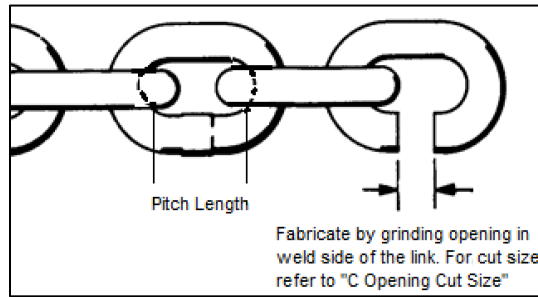

Figure 7.3.1
6. Use open “C” links for attaching the new chain to the old chain (see Figure 7.3.1). Links must be identical in size to hoist chain. Refer to Table 7.3.1 for “C Opening Cut Size”. The new chain is then run into the hoist as the old chain is run out. Be certain that all welds on the links of the replacement chain face away from the center of the load sprocket.